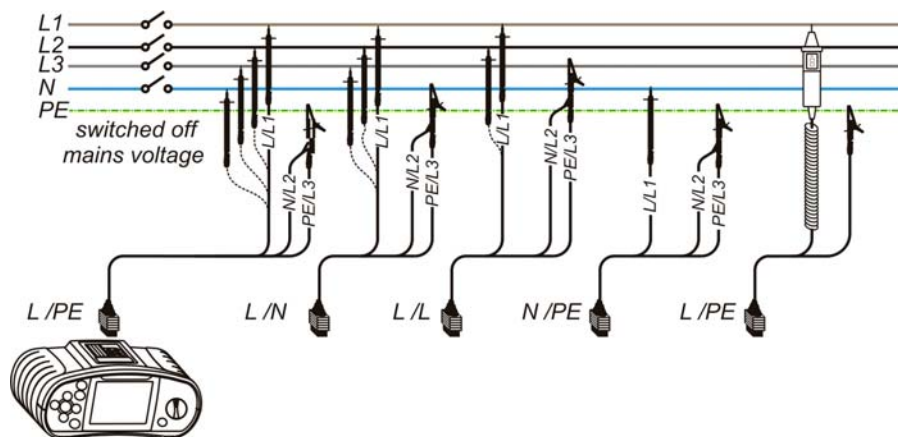

Figure 5.2: Connection of universal test cable and tip commander
Step 3 Ensure that no voltages are present on the item for testing. Connect the test leads to the Eurotest instrument, Connect the test cables to the item under test. (see figure 5.2) to perform insulation resistance measurement. Use the **Help** function if necessary for further reference.